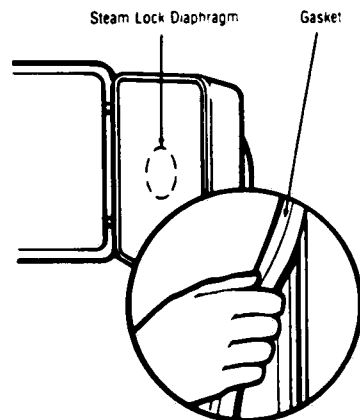

FIGURE 4-8 – Chamber Door Gasket
• **Install Chamber Door Gasket (Figure 4-8)**